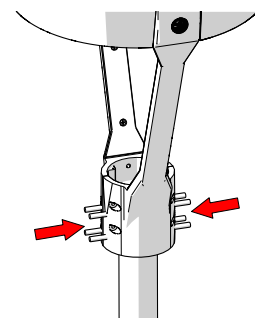

Figure 3
3. Tighten the (8) set screws to the pole. [Figure 3].